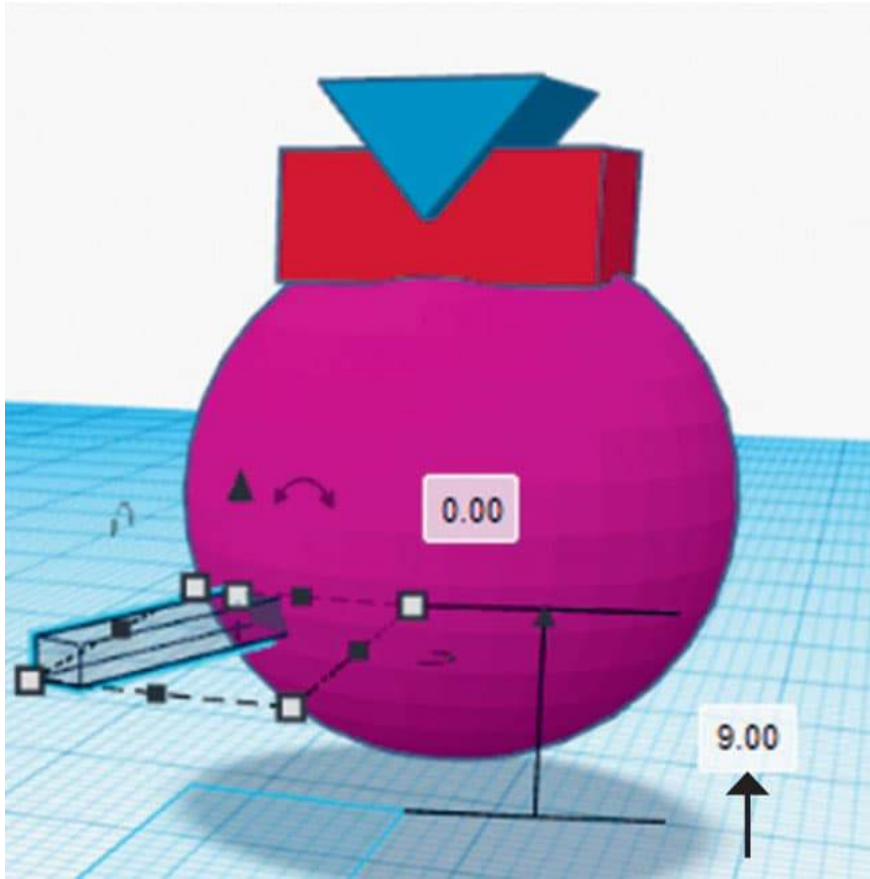
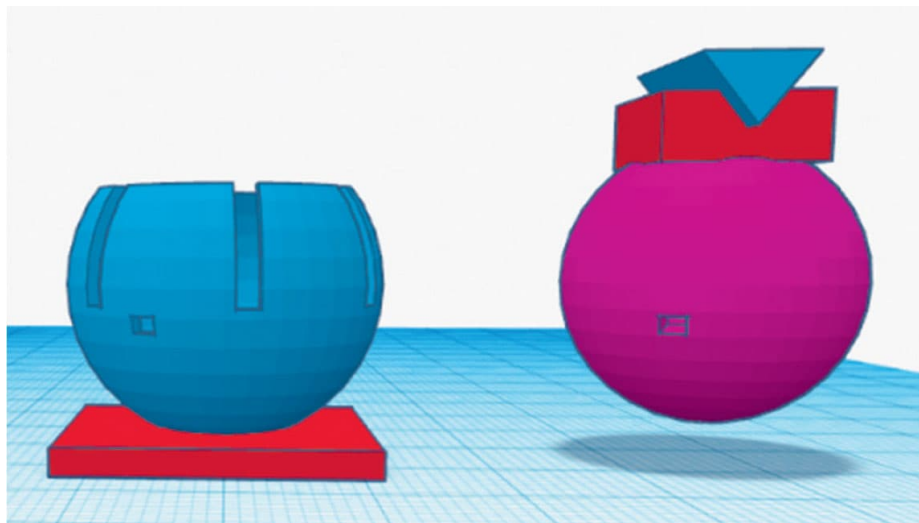

FIG. 4: Create a matching box hole for the key seat in the ball section of the joint at the same height and angle as the hole in the socket section.
FIG. 5: The completed key seat in the ball-and-socket joint.
4. Now we will create the key seat in the ball section so we can lock the holder in the vertical position. Make a copy of the rectangular box hole from step 2. Merge it with the ball at the same height from the workplane and same angle as you did in step 2 (fig. 4). Group the box hole with the ball section to create the key seat in the ball (fig. 5).